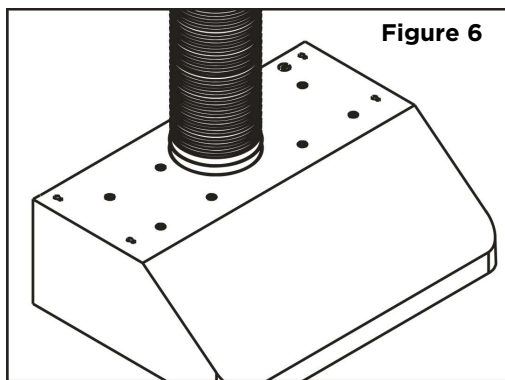

Figure 6
- Use aluminum foil tape to make all joints secure and air tight. Refer to Figure 6.